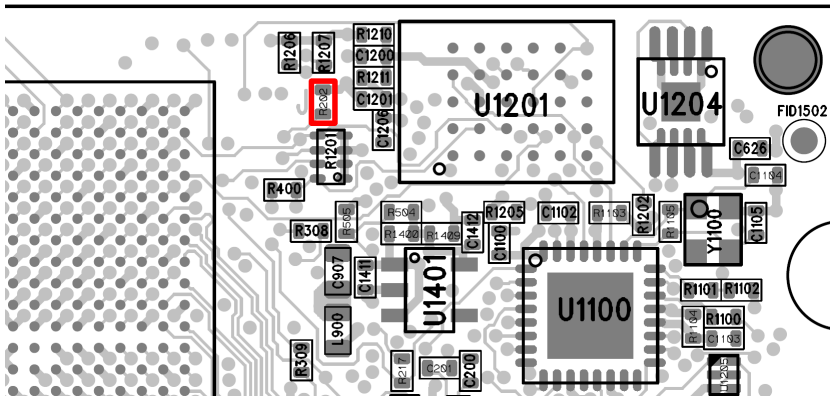

Figure 15: JTAG Boot Mode Resistor - Assembly Drawing Top View (top right part) for Revision 3 Modules
- Short-circuit R202 (see Figure 15) while powering-up the module (in order to sample the MPSoC boot selection pins correctly for JTAG boot mode)